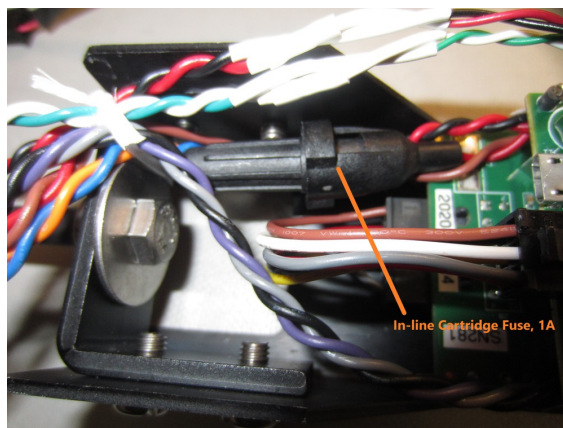

Figure 46: Input fuse between the rear bulkhead and the Rockland Data Logger board.
1. Check the fuse wired between the rear bulkhead and the Rockland Data Logger board (Figure 46). This can be done by opening the fuse holder and removing the cartridge fuse. The fuse is blown if the fine wire inside the glass body is broken, or if a measurement across the fuse indicates "open" on the multi-meter.